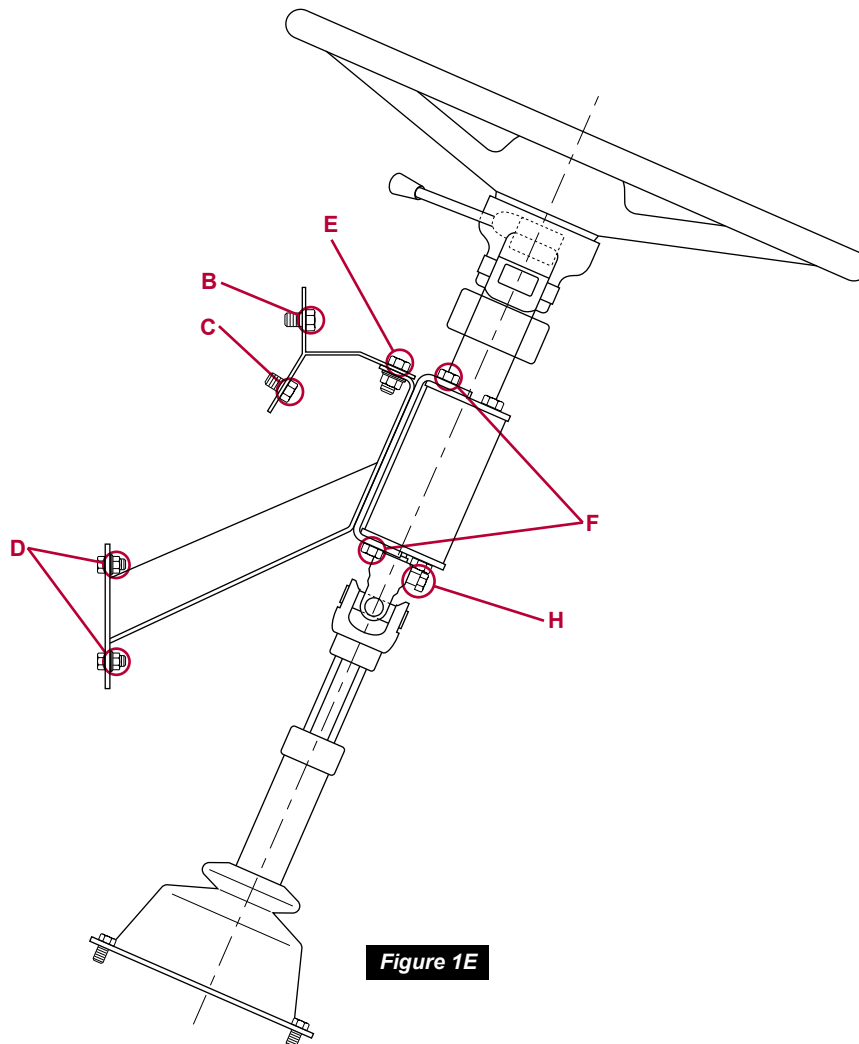

Figure 1E
Several steps in this repair procedure will reference the threaded fasteners securing the steering column to the mounting brackets, and securing the mounting brackets to the cab. The following fastener identification illustration (*Figure 1E*) has been provided to assist in locating each fastener as referenced by the repair procedure.
STEP 14: Using a 1/2" socket, torque the (2) hex head cap screws (*Figure 1E, fastener B*) to 13 ft-lbs (± 2 ft-lbs) (*Figure 57*).
STEP 15: Using a 1/2" socket, torque the (2) hex head cap screws (*Figure 1E, fastener C*) to 13 ft-lbs (± 2 ft-lbs) (*Figure 58*).
STEP 16: Using a 1/2" socket, torque the (4) hex head cap screws (*Figure 1E, fastener D*) to 13 ft-lbs (± 2 ft-lbs) (*Figure 59*).
STEP 17: Using a 5/8" socket, torque the (2) hex head cap screws (*Figure 1E, fastener E*) to 55 ft-lbs (± 5 ft-lbs) (*Figure 60*).
STEP 18: Using a 1/2" socket, torque the (4) hex head cap screws (*Figure 1E, fastener F*) to 35 ft-lbs (± 3 ft-lbs) (*Figures 61 and 62*).
STEP 19: Using a torque wrench with a 11/16" socket and a 5/8" box wrench, apply 60 ft-lbs (\pm 6 ft-lbs) to the three universal joint pinch bolts and hex nuts (*Figure 1E, fastener H*) and (*Figures 63, 64, and 65*).